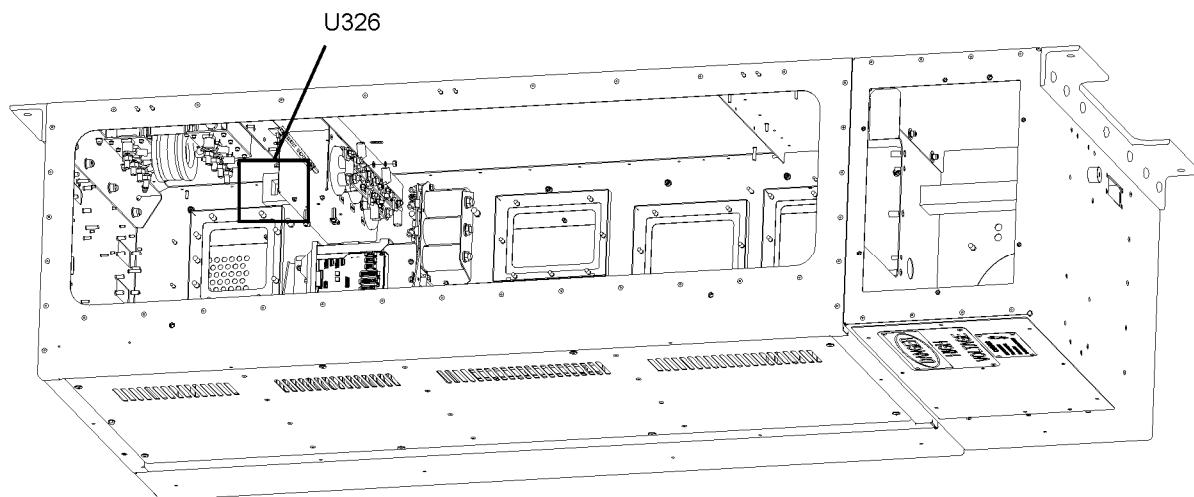

Figure 5-31: Location of U326
3. Locate U326. See Figure 5-31 for the location of the U326.